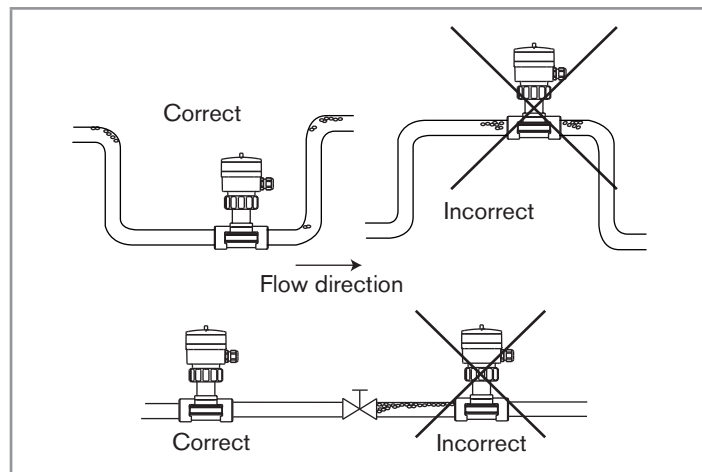

Fig. 6: Air bubbles in the pipe
- Prevent the formation of air bubbles in the pipe in the section around the measuring device (Fig. 6).